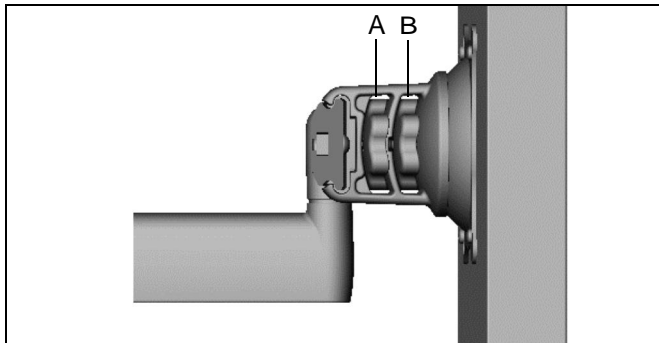

Figure 11
- Using your fingers, slightly loosen adjustment knob "A". (See Figure 11)
- Using your fingers, tighten adjustment knob "A". (See Figure 11)
- Using your fingers, slightly loosen adjustment knob "B". (See Figure 11)